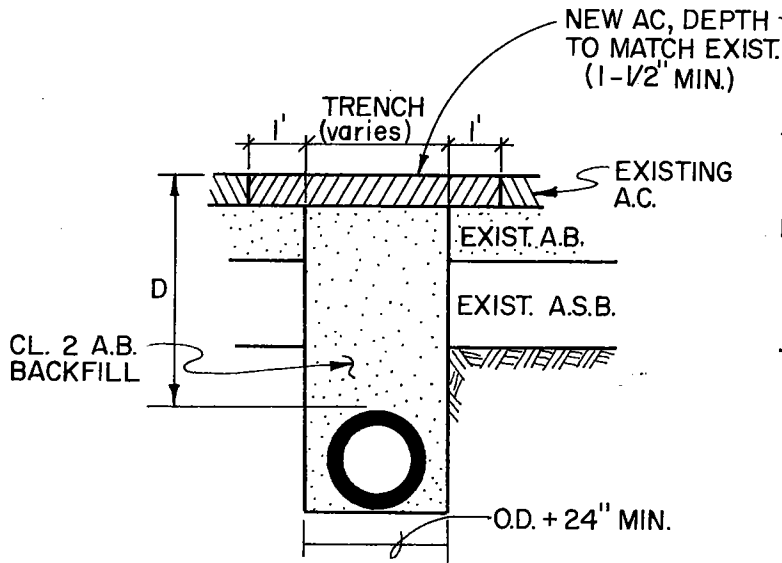

FIGURE 1
1. ASPHALT OR CONCRETE STREETS SHALL BE OVERCUT ONE FOOT GREATER ON EACH SIDE THAN THE TRENCH WIDTH. (FIGURE 1)